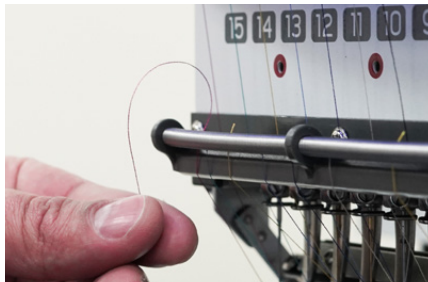

Figure 17
2. Pull the thread up, and place the thread on the spring until you're ready to embroider. We recommend leaving one to two inches of thread hanging and trimming the excess. **See Figure 17.**